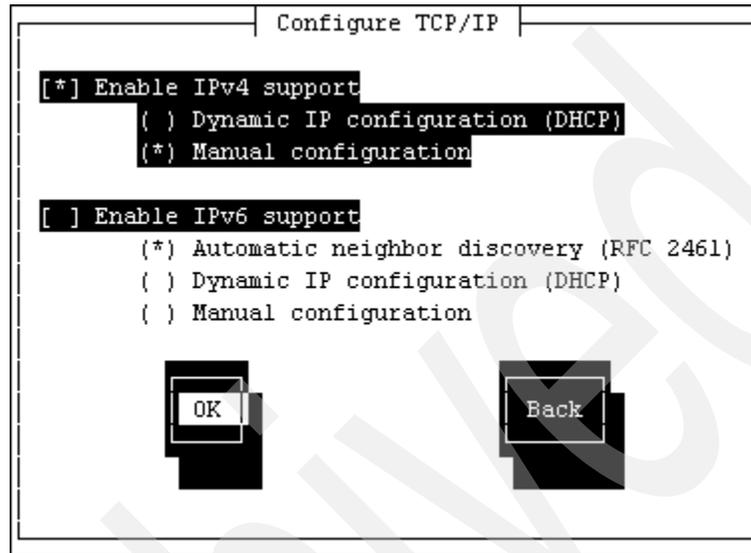
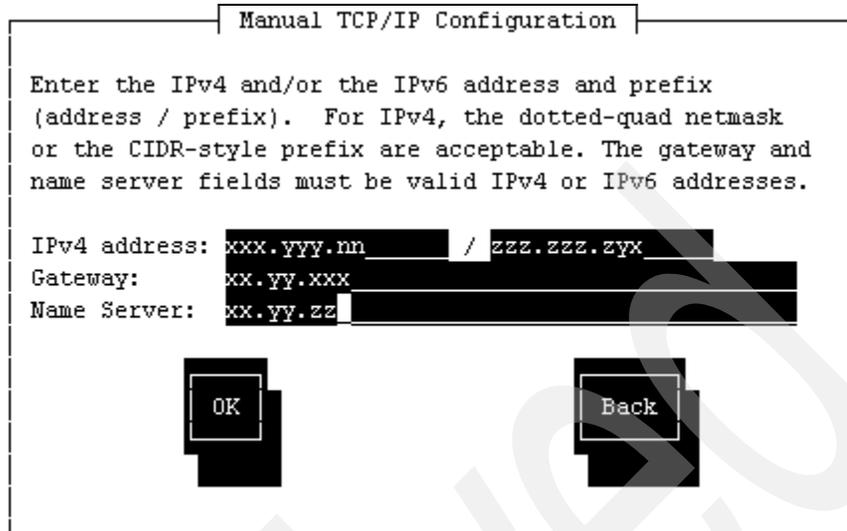

Figure 6-10 Configure TCP/IP
Figure 6-11 TCP/IP configuration of IP address, gateway, and name server
6. To configure DHCP, select either IPv4 or IPv6 support and then Dynamic IP configuration (DHCP) from the TCP/IP window. Then select **OK**. See Figure 6-10 on page 293 for more details and skip the next two steps.
As an example, if you wish to configure static IP parameters with IPv4 support, configure the TCP/IP parameters and **Enable IPv4** support, select **Manual configuration** and disable **Enable IPv6 support** as shown in Figure 6-10, and configure the device as shown in Figure 6-11 on page 294.
7. In the next panel, configure the LPAR's IPv4 address, subnet mask, gateway, and name server. The IP address, subnet mask, and gateway are exactly the same as the values entered in Figure 6-11 on page 294.
15. Press **OK** on the Network Configuration panel. The default is fine because this was already set up in Figure 6-11 on page 294.